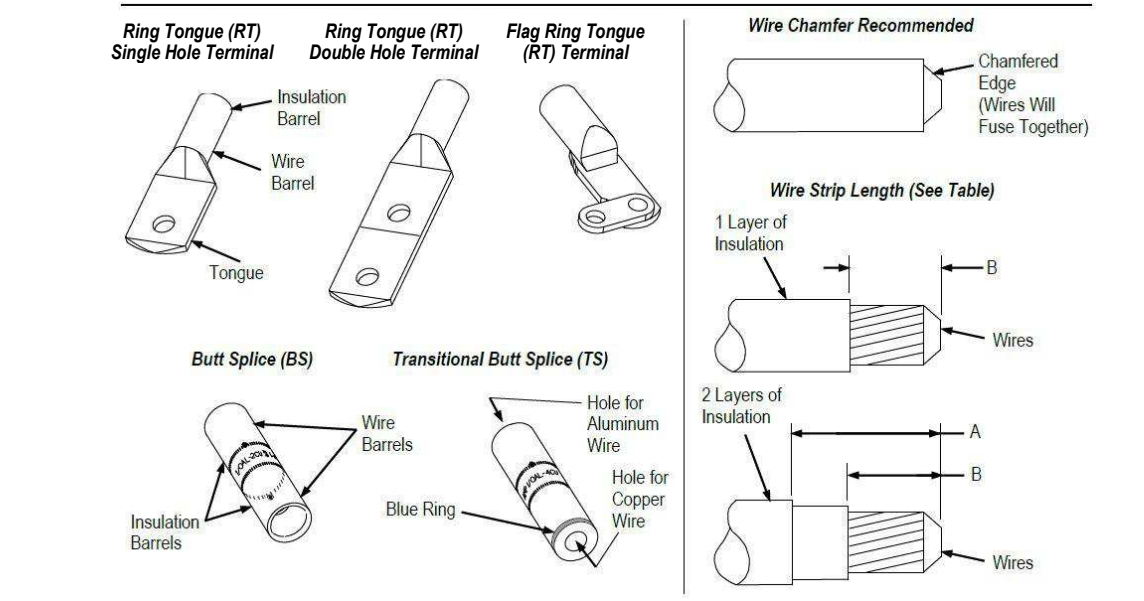

Figure 2
1. Refer to Figure 2/Table 2 to select the appropriate die assembly and terminal or splice according to the wire.
2. Cut the end of the wire perpendicular to the wire; DO NOT distort the shape of the wire. It is recommended to chamfer the edge around the group of wires. See Figure 2. The chamfer will aid in the insertion of the wire into the terminal or splice.
3. Strip the wire to the length indicated in Figure 2/Table 2. DO NOT nick or cut the wire strands. The strip length for the wire will depend on the number of insulation layers covering the wire.